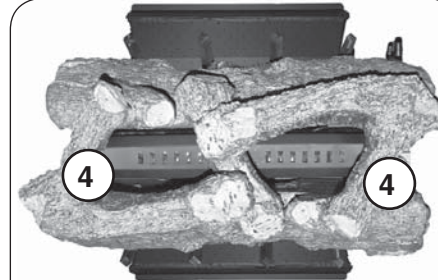

Fig. 20-3
3. Position the two (2) "Y"-shaped top logs (Logs #4) over the bottom logs as shown in Fig. 20-3. Place one side of "Y"-shaped log over the notch on middle top log (Log #3) and the other side on notch over the bottom logs (Logs #1 and #2).